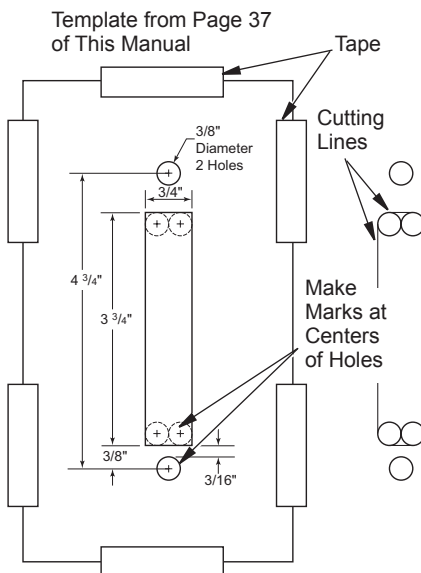

Figure 10 - Using Template (Page 37) for Wall Switch Assembly Installation
10. Using a straight edge and pencil, connect the outer edges of the 4 holes for the rectangle (see Figure 10). This will give you cutting lines for the rectangle you will cut in the wall.
10. Using a straight edge and pencil, connect the outer edges of the 4 holes for the rectangle (see Figure 10, page 11). This will give you cutting lines for the rectangle you will cut in the mantel wall.